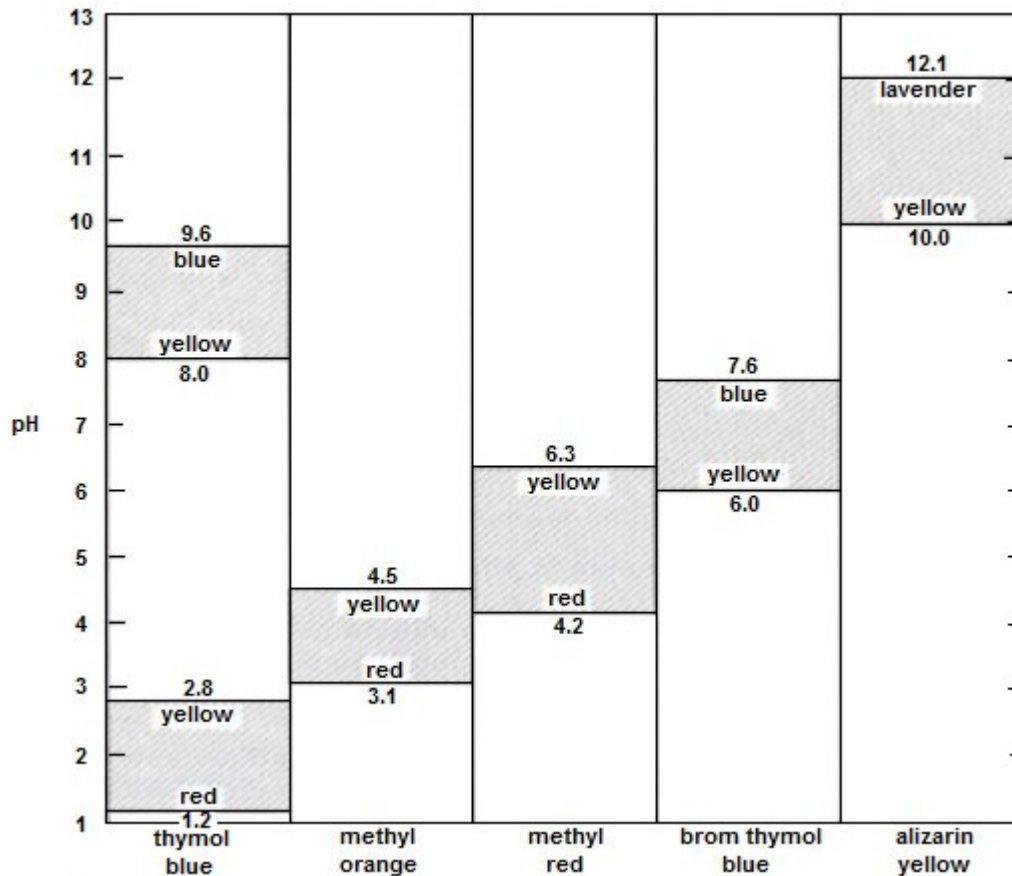

Figure 1. pH Color Change Ranges of Some Indicators
4. Add 3 or 4 drops of one of the indicators given in Figure 1 to the test tubes. Use a different indicator in each test tube.
5. Record the color in each test tube and, using the data of Figure 1, determine and record the pH of the solution to the nearest 0.3 pH unit. (You will have to estimate the last digit.)